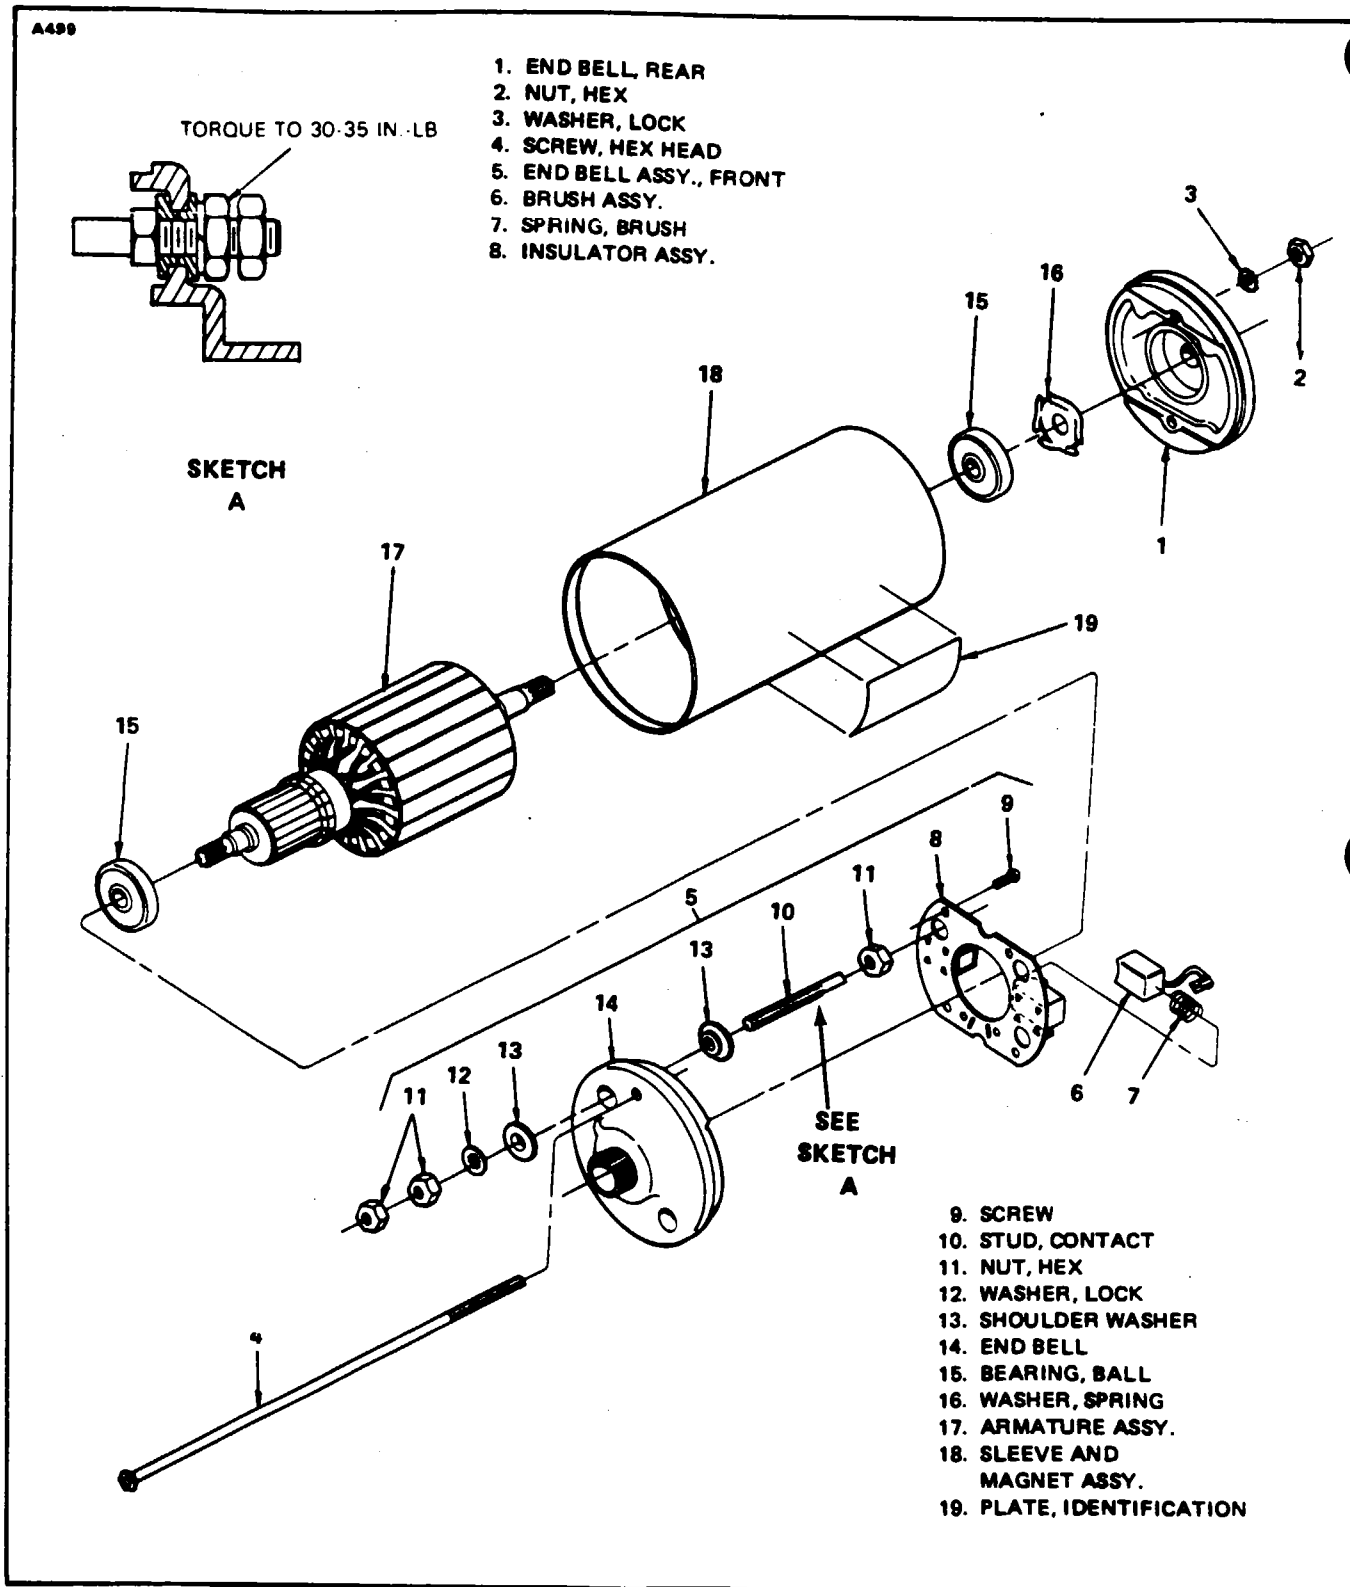

Figure 27-26. Motor Assembly. Exploded View
DISASSEMBLY OF FLAP ACTUATOR MOTOR. (Refer to Figure 27-26.)
ASSEMBLY OF FLAP ACTUATOR MOTOR. (Refer to Figure 27-26.)
1. Assemble shoulder washers, contact studs, lockwashers and nuts to front end bell. Position flat on contact studs parallel to the side of the brush holder. Torque outer nut to 30 to 35 inch-pounds. (See Sketch A of Figure 27-26.)